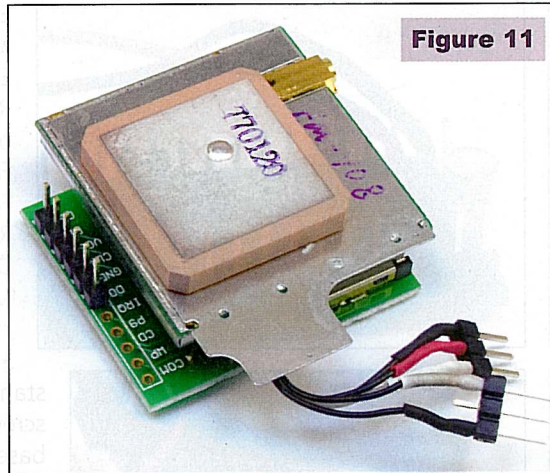

Figure 11
- **STEP 5:** Take the SD memory breakout board and attach a five-pin header into the first five pads shown in Figure 10. Take a few pieces of double stick foam tape and attach them to the memory board as shown in Figure 11. Now take the EM 408 and attach it to the memory board as shown in Figure 11. Make sure